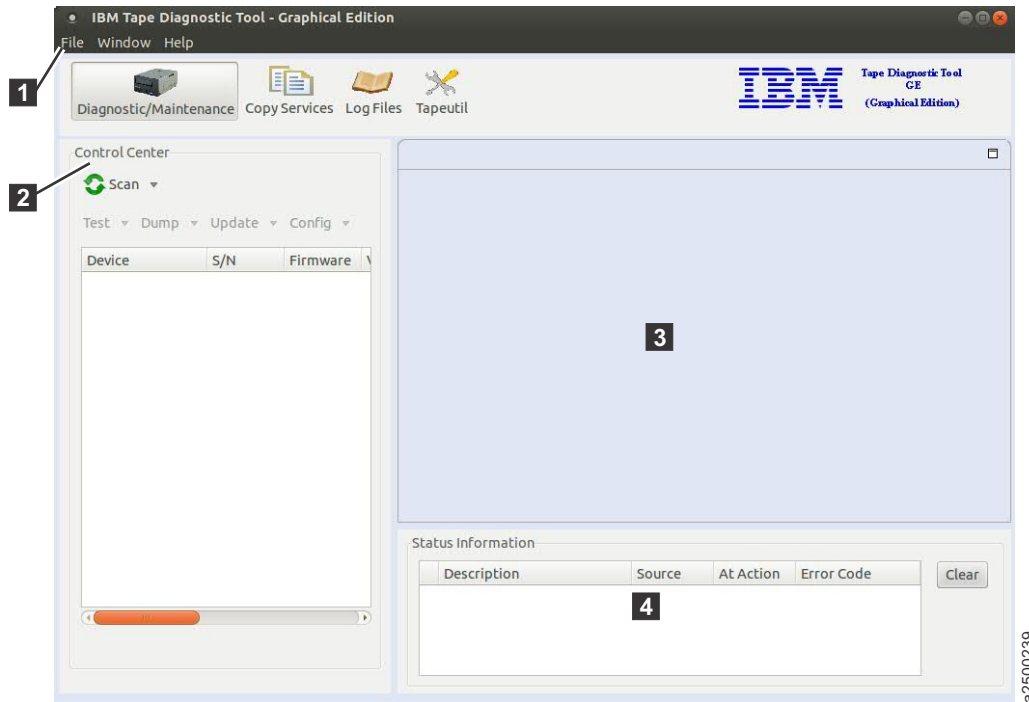

Figure 49. Graphical Edition interface
- Main menu (**1** on Figure 49)- Located in upper left (File, Window, Help).
- Control Center (**2** on Figure 49) - On left side (Device operations - Scan, Test, Dump, and Update)
- Test Lab (**3** on Figure 49) - Located from center to right side (Contains running and previously run tests)
- Status Information (**4** on Figure 49) - Located below the Test Lab (Contains summary results of tests)